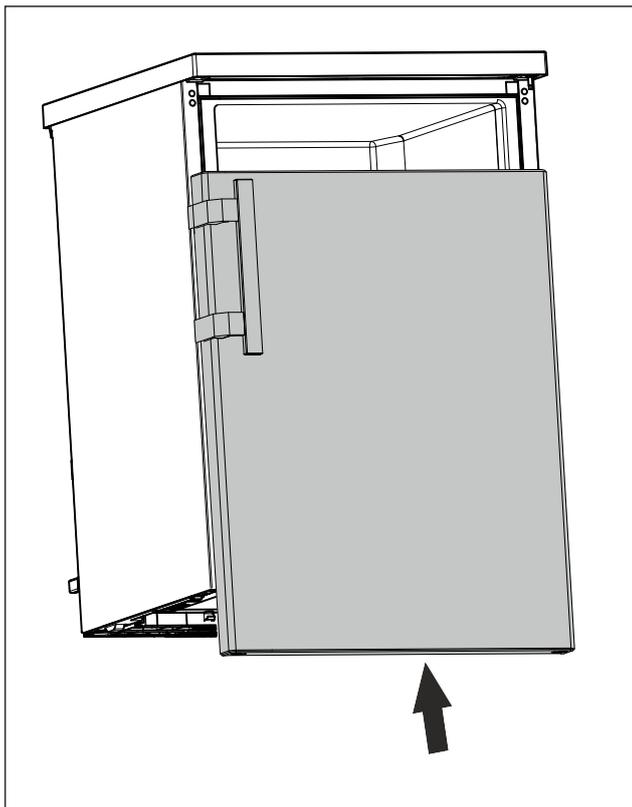

Fig. 22
- ▶ Slide the door onto the upper bolt in closed status. (see Fig. 22)